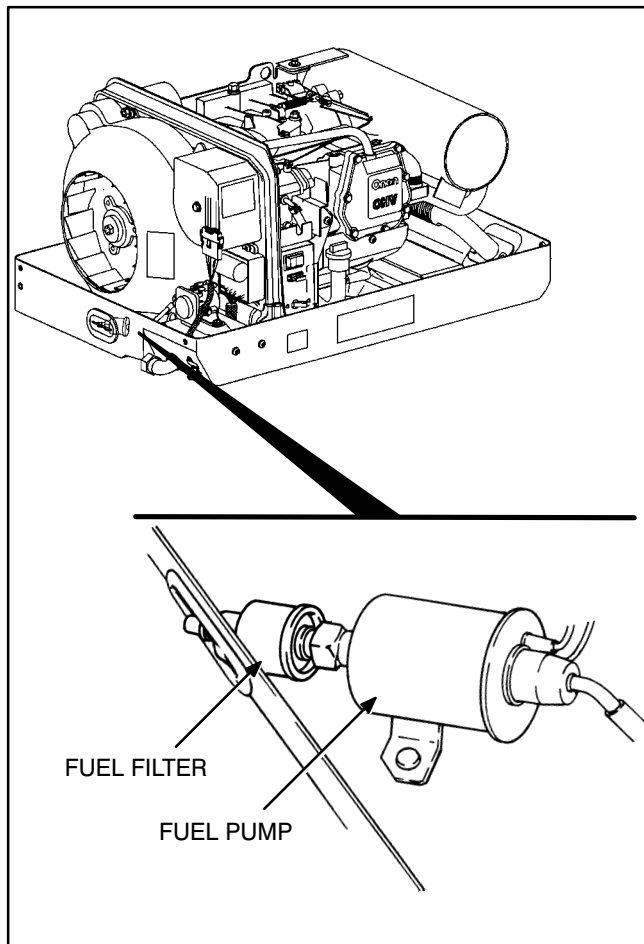

FIGURE 8-10. FUEL FILTER REPLACEMENT
1. Close the fuel supply valve (if so equipped) or remove the fuel line from the fuel filter. Plug the end of the fuel line to prevent fuel leakage and vapor accumulation. See Figure 8-10.